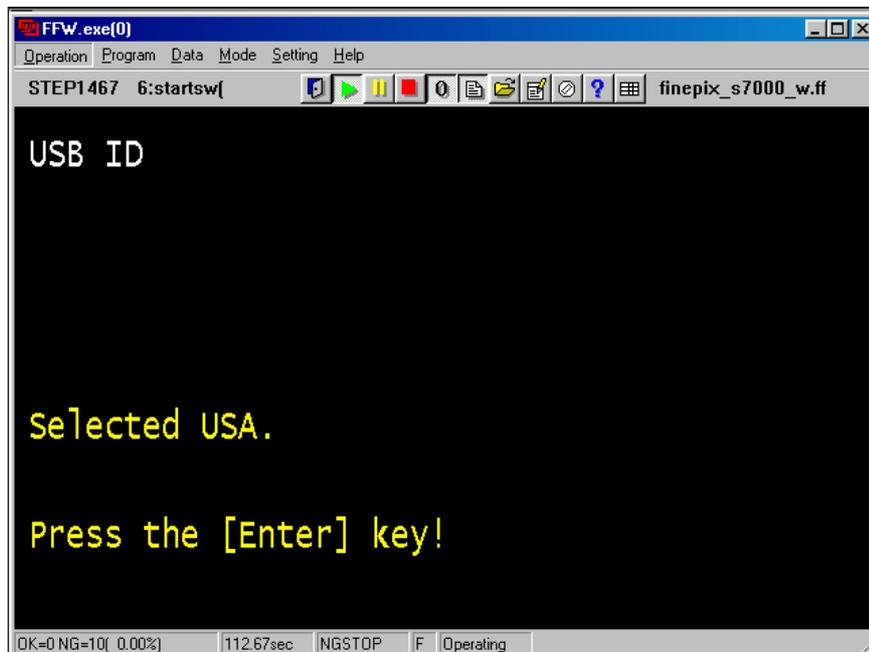

Fig.45
---> The [USB ID USA site selected Screen (Fig.45)] is appears.